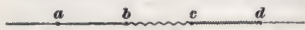

FIG. 50.
**EXAMPLE.**—Fig. 50 represents part of a circuit in which a current of 3 amperes is flowing. The resistance from  $a$  to  $b$  is 1.5 ohms, from  $b$  to  $c$  is 2.3 ohms, and from  $c$  to  $d$  is 3.6 ohms. Find the difference of potential between  $a$  and  $b$ ,  $b$  and  $c$ ,  $c$  and  $d$ , and  $a$  and  $d$ .